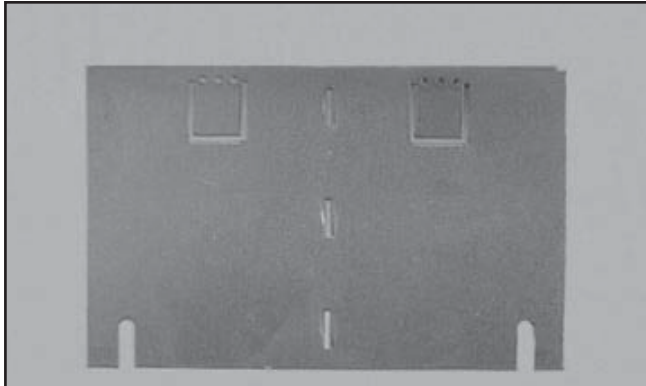
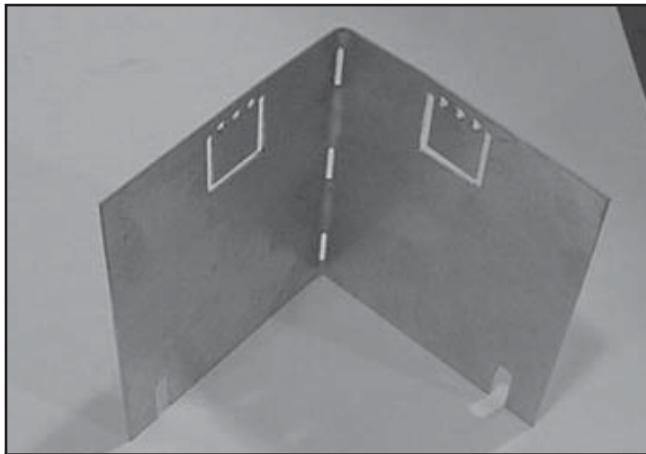

Figure 7.17 Flat Baffle
Figure 7.18 Baffle Bent to 90° Angle
- Fold the baffle (Figure 7.17) to an approximate 90° angle (see Figure 7.18).